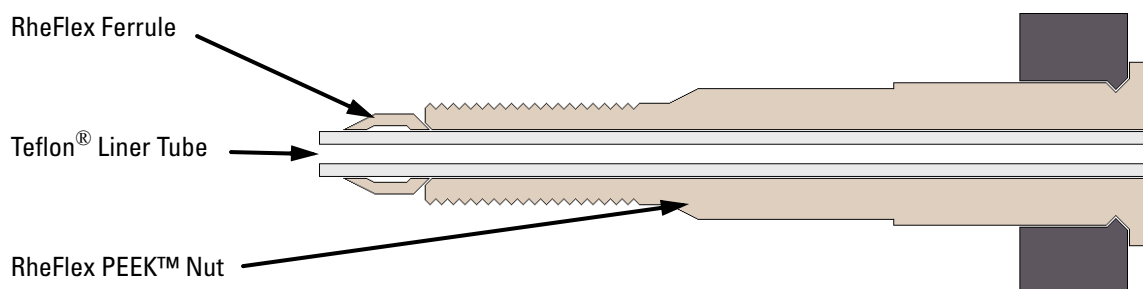

Figure 5-5. Needle port fitting, P/N 00110-22030
- a. Inserting the liner tube, RheFlex[®] ferrule, and the threaded portion of the RheFlex nut into port 5 of the divert/inject valve. See Figure 5-5.